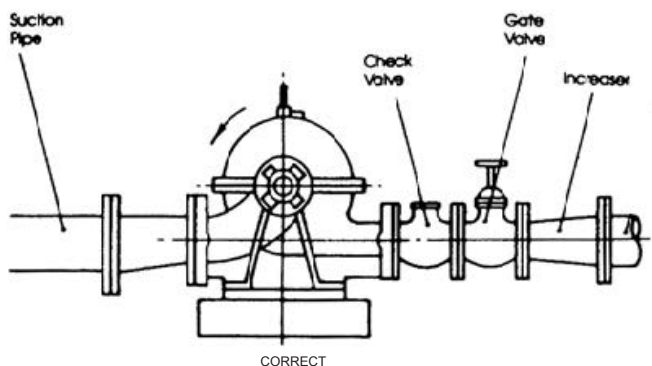

FIG.5
10. Suction and Discharge Piping (See Fig. 5 & 6)